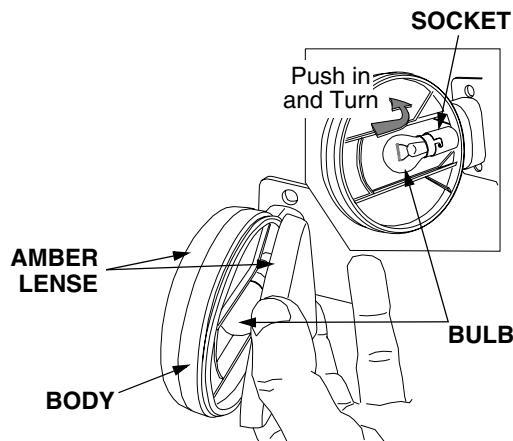

Figure 36
- Insert a **thin** bladed screwdriver, or similar tool, between an amber lens and the hazard light body, then twist to separate the lens from the body. See Figure 36.
- Push the bulb inward and turn counterclockwise, then pull the bulb outward to remove from the light socket. Refer to Figure 36.